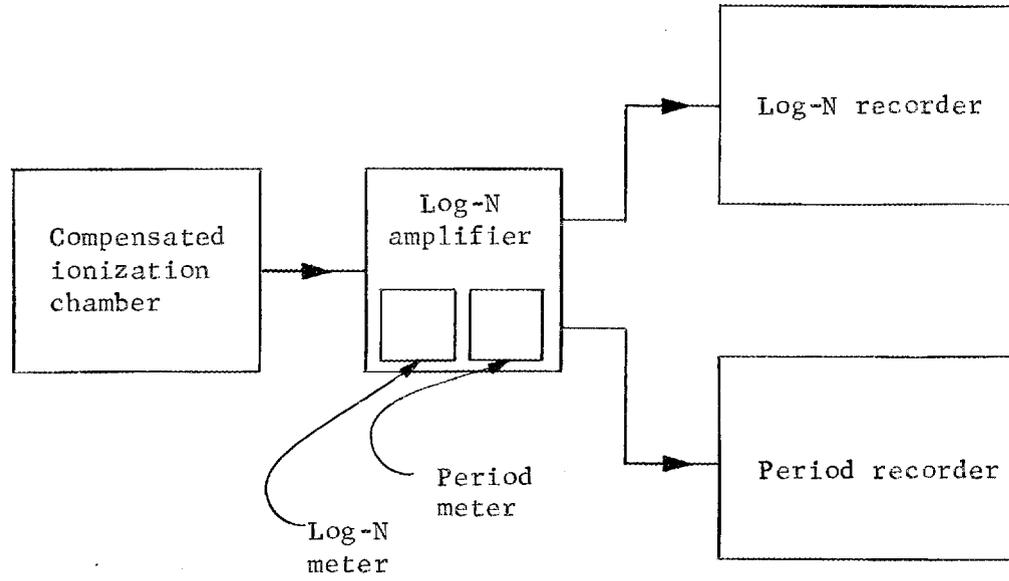

Fig. V-52. The Log-N Channel
77. As shown in Figure V-52, the log-N amplifier sends _____ logarithm a signal to the period recorder, as well as to a flux (or power) recorder called the "log-N recorder".